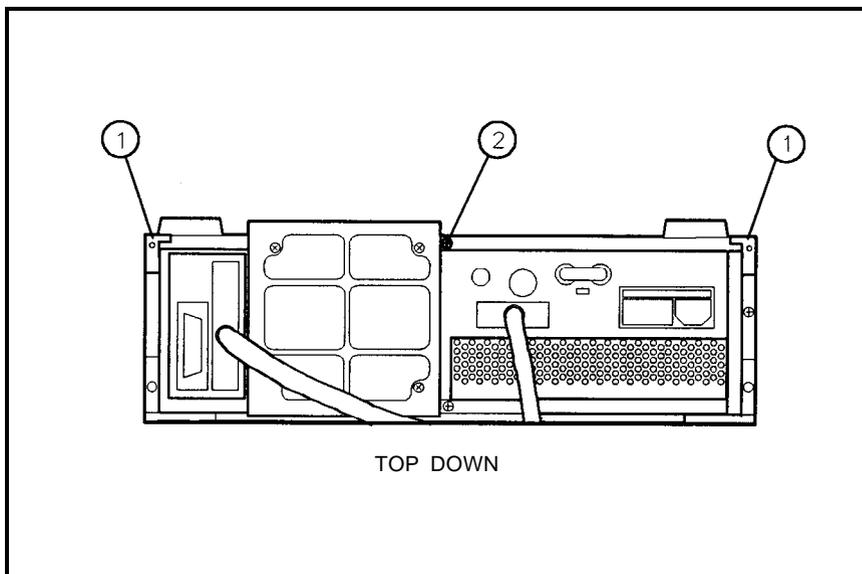

Figure 1-6. Removing the Bottom Cover
3. Using a Pozidriv screw driver, remove the two bottom RF-Section rear-panel bumpers. See ① in Figure 1-6.
4. Back out screw ② (Figure 1-6) causing the cover to unseat from the front frame. When the cover is clear of the front frame, lift the cover up to remove it.